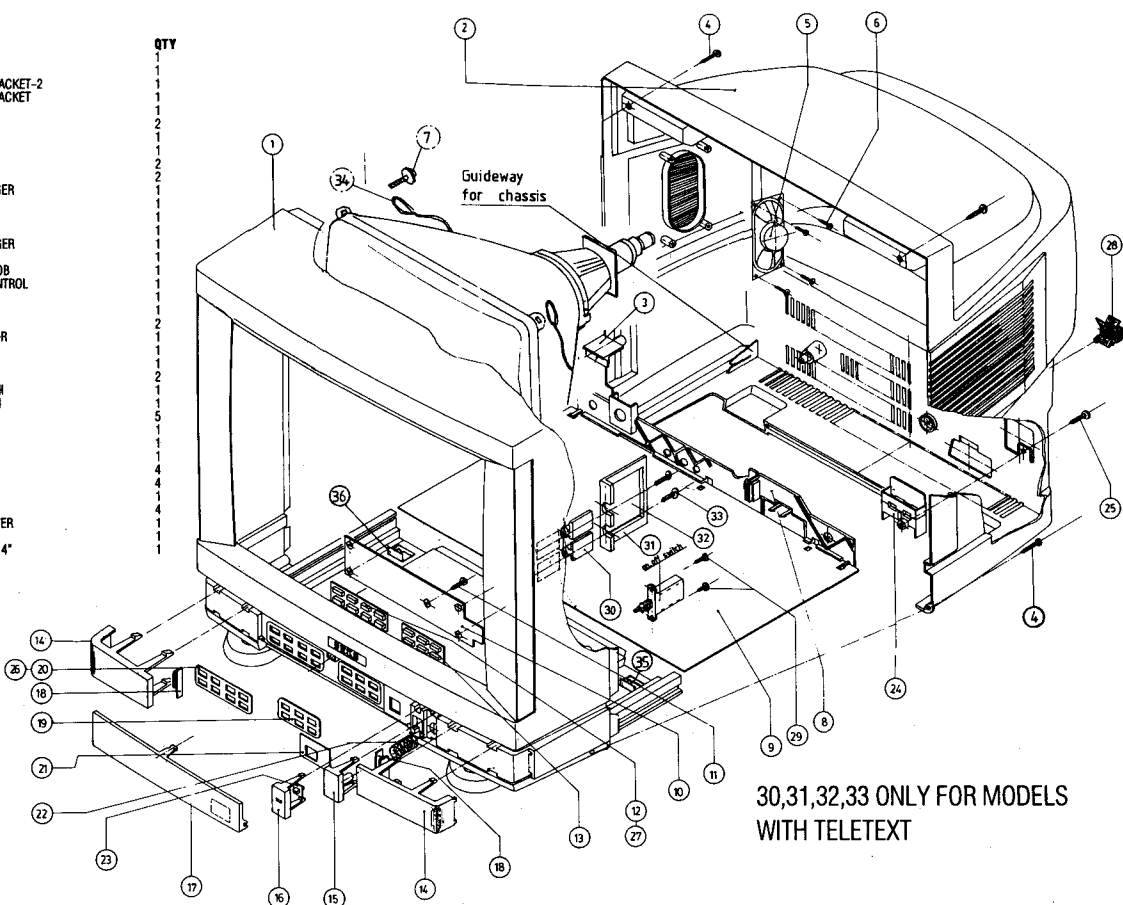

Figure 3
3. Replace the 2 screws (2 pcs) fixing the speaker assembly to the back cover. Figure 3